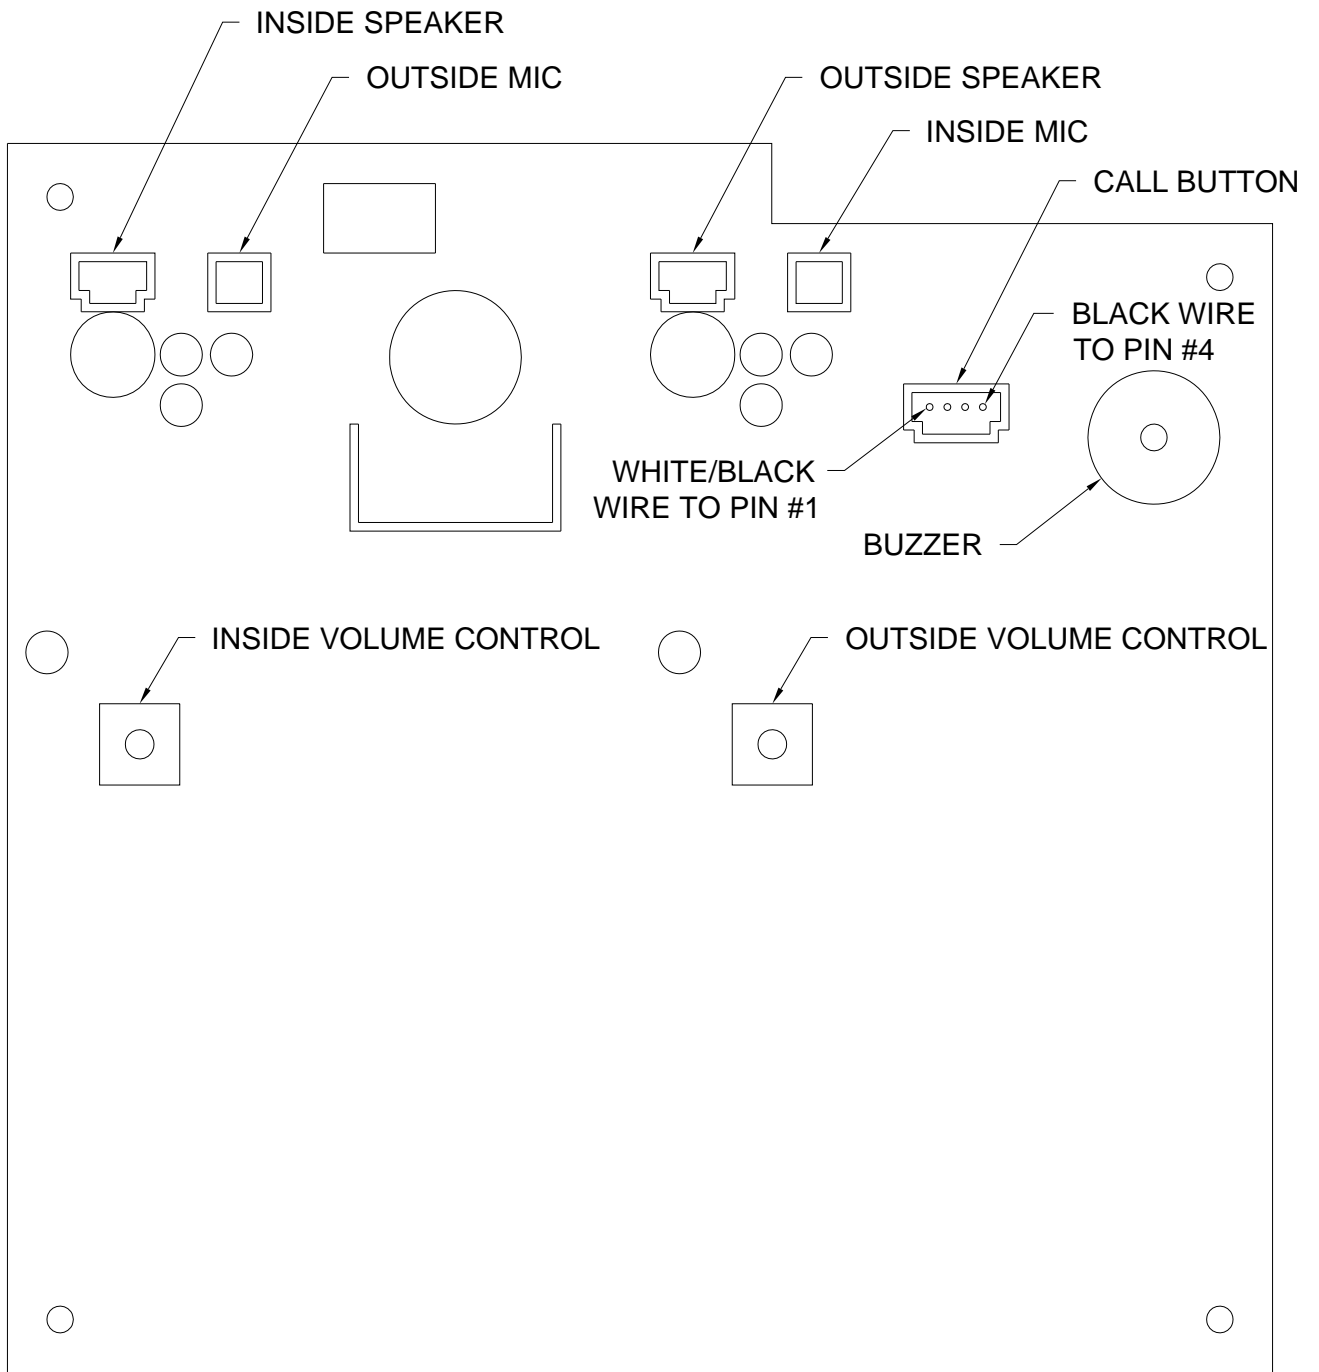

FIG. 2
2. There is a 50' signal cable supplied with the kit. The end with the black plastic connector housing plugs into the circuit board header marked J3. The opposite end has metal connectors crimped onto them. The metal connector ends are to be inserted into the 4 position connector disassembled in step 1. Insert the **WHITE W/BLACK STRIPE** wire of the flasher into pin position 1. Insert the **BLACK** wire into pin position 4. (See FIG. 2 diagram on page 4.) Note that the metal connector ends are square. On one side there is a locking tab. The side with the locking tab goes into the side of the 4 position plastic connector housing, which has two rectangular windows in it per position. When the metal connector ends are properly inserted into the plastic connector housing, the locking tabs will be in the window away from the wire end of the housing. The insulation of the wire will appear in the window closest to the wire. The wire will not pull out of the housing after it is properly installed.